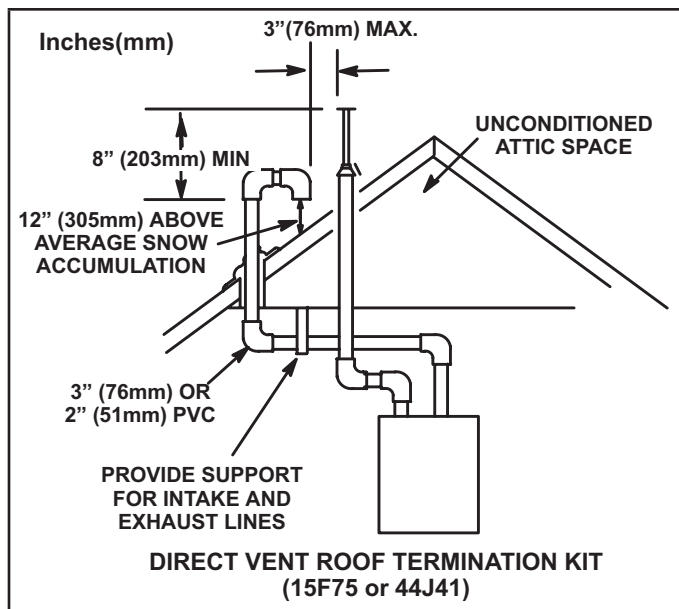

FIGURE 31
Intake and exhaust pipes may be routed either horizontally through an outside wall or vertically through the roof. In attic or closet installations, vertical termination through the roof is preferred. FIGURE 31 through FIGURE 39 show typical terminations.
- 3 - On roof terminations, the intake piping should terminate straight down using two 90° elbows (See FIGURE 31).